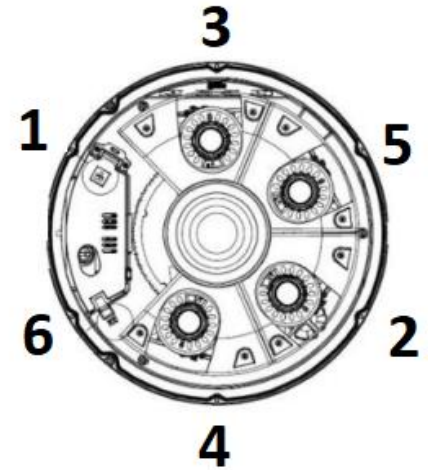

Figure 9
17. Use a screwdriver and approximately **75%** tighten each of the six-bubble trimming screws identified with a number in Figure 9.
**Note:** Figure 9 is a birds-eye view of the camera **with** the bubble trim-ring attached (as a result, the inside of the camera is not visible).
- **If the trim ring screws are tightened in a 'ring' pattern, there is potential that the trim-ring will not align correctly with the camera seal, allowing water to penetrate the camera body. When fitting the bubble trim-ring, it is important that the screws are tightened in a 'star pattern' as per the numbers in Figure 9.**